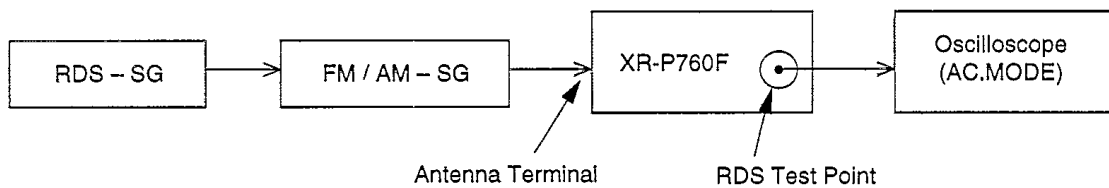

Fig. 2-1 RDS Adjustment Wiring Diagram
- Connect the wiring as shown in Fig. 2-1.